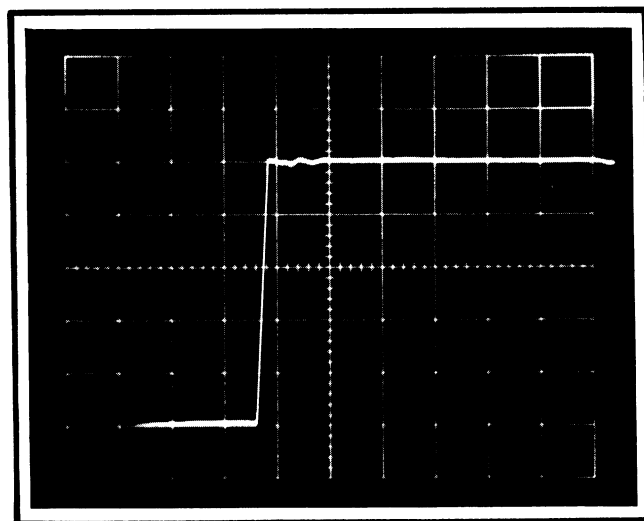

Fig. 4-4. Probe response to a fast-rise pulse input signal (risetime ≤ 0.25 ns). Note that aberrations are $\leq 3\%$ (0.15 div).
- 5) Recheck the waveform with the compensation box cover installed. Perform adjustments as necessary to obtain the correct waveform after the cover is installed. See Fig. 4-4.
5) Recheck the waveform with the compensation box cover installed. Perform adjustments as necessary to obtain the correct waveform after the cover is installed. See Fig. 4-4.